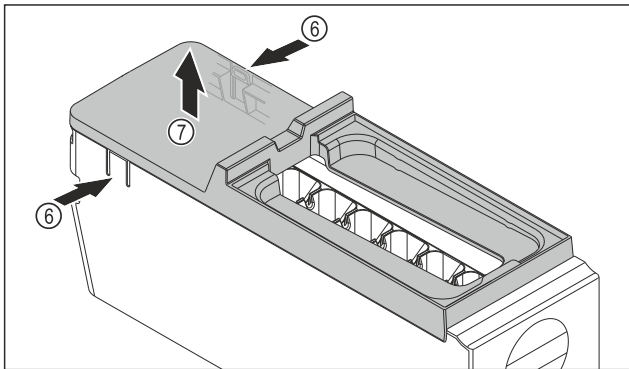

Fig. 173
- ▶ Removing the EasyTwist-Ice body cover: Push the tabs Fig. 173 (6) on both sides of the EasyTwist-Ice body with one hand.
- ▶ Use the other hand to remove the cover Fig. 173 (7) upwards.